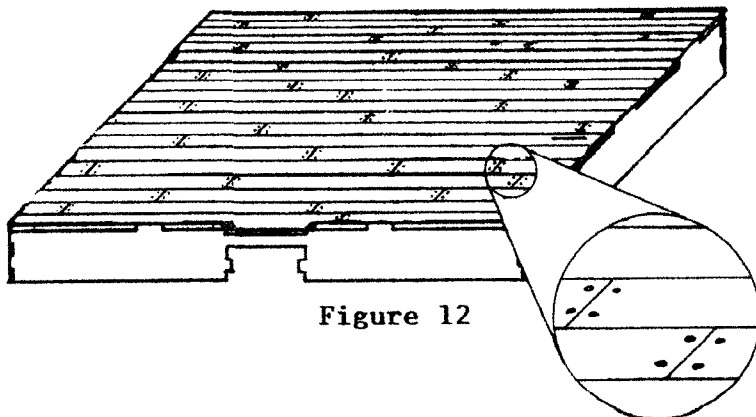

Figure 12
6. To achieve a pegged appearance, punch the ends of each strip with a 3/32" nail set as in Figure 12.